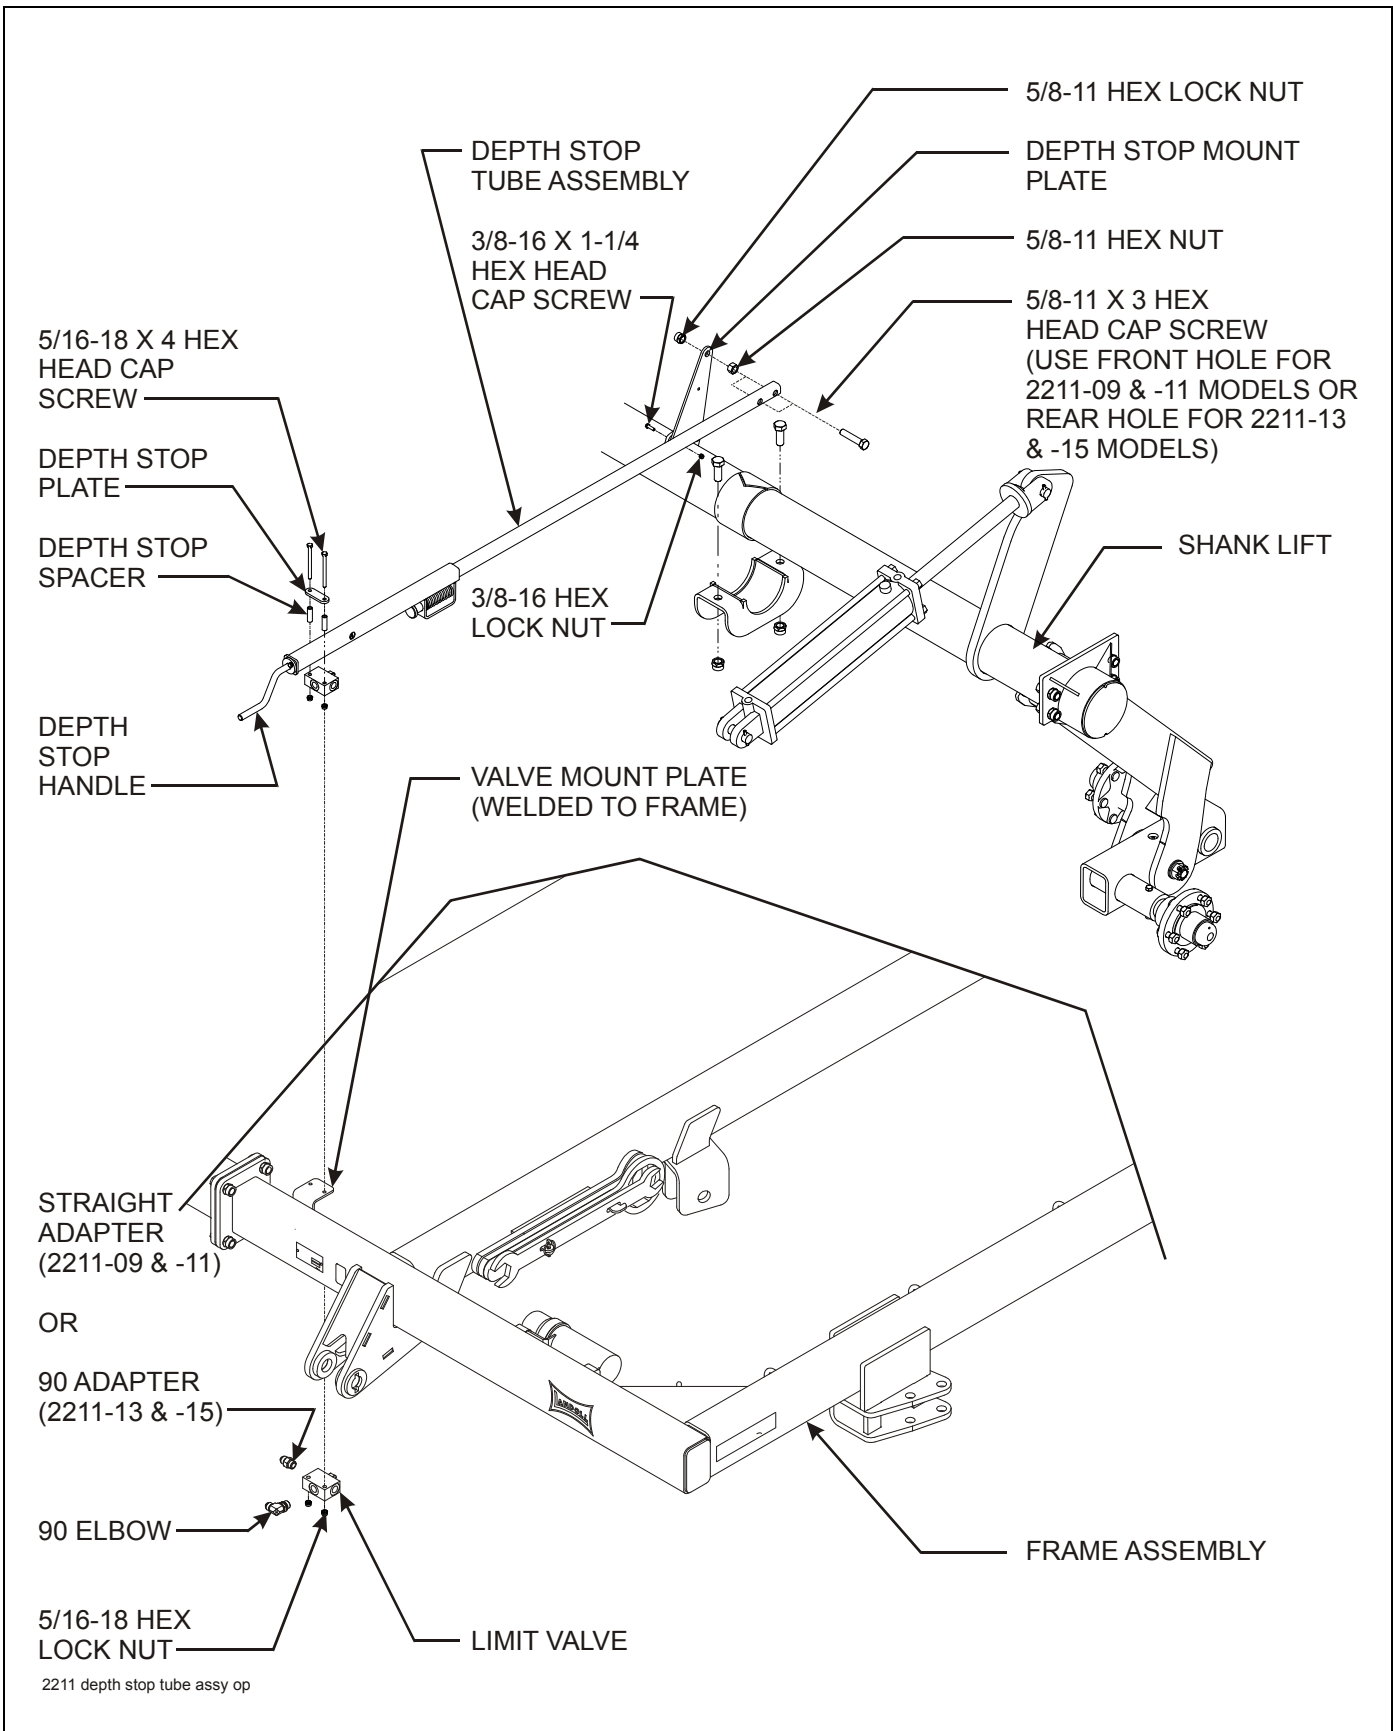

Figure 3-7: Depth Stop Assembly Installation
2. Lay the depth stop tube assembly on top of the center frame. Insert a 5/8-11 x 3 hex head cap screw in the front hole (2211-09 & -11 models) or rear hole (2211-13 & -15 models) of the tube assembly from the left side (**See Figure 3-7.**) Install a 5/8-11 hex nut on the screw. Do not over tighten, as the depth stop must pivot on this screw. Insert the screw through the depth stop mounting plate on the center lift and secure with a 5/8-11 hex lock nut.